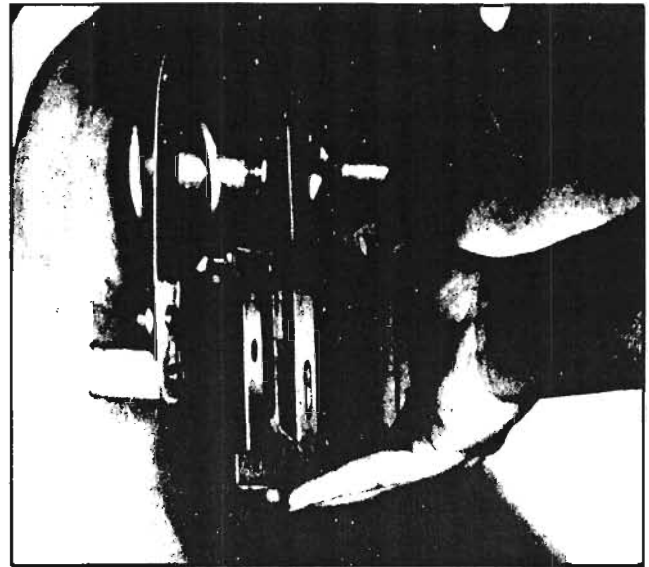

Figure 3-3. Pan Support Removal
2. Remove left and right side pan supports (Figure 3-3) by lifting front up and forward to disengage from mounting studs. Wash with detergent, rinse, and set aside for reassembly.